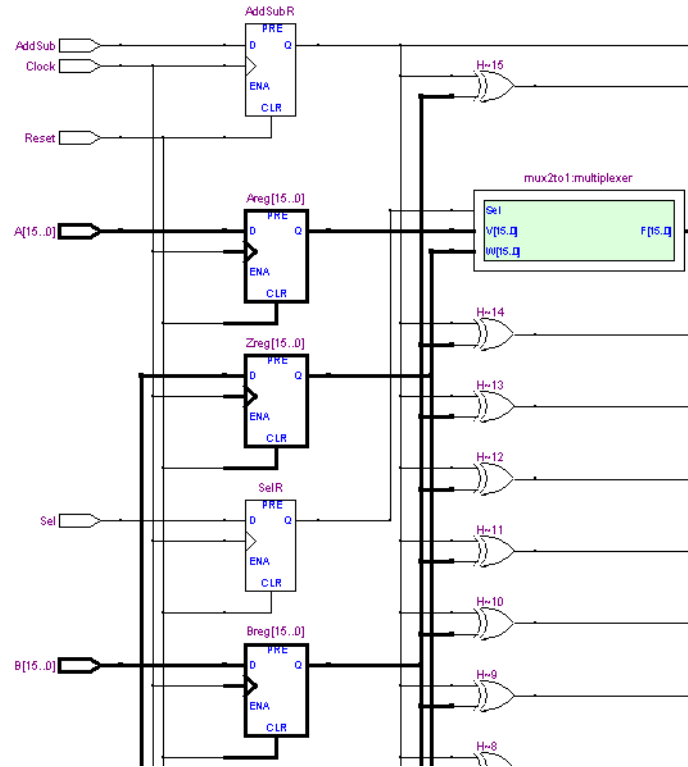

Figure 29: An enlarged view of the circuit.
2. Use the Zoom Tool to enlarge the image and view the upper-left portion of the circuit, as illustrated in Figure 29. Note that individual flip-flops are used for the *AddSub* and *Sel* signals. Sixteen-bit vectors *A* and *B* are denoted by heavy lines connected to the registers, *Areg* and *Breg*, which are indicated as heavily outlined flip-flop symbols. The *Zreg* register is drawn in the same manner.